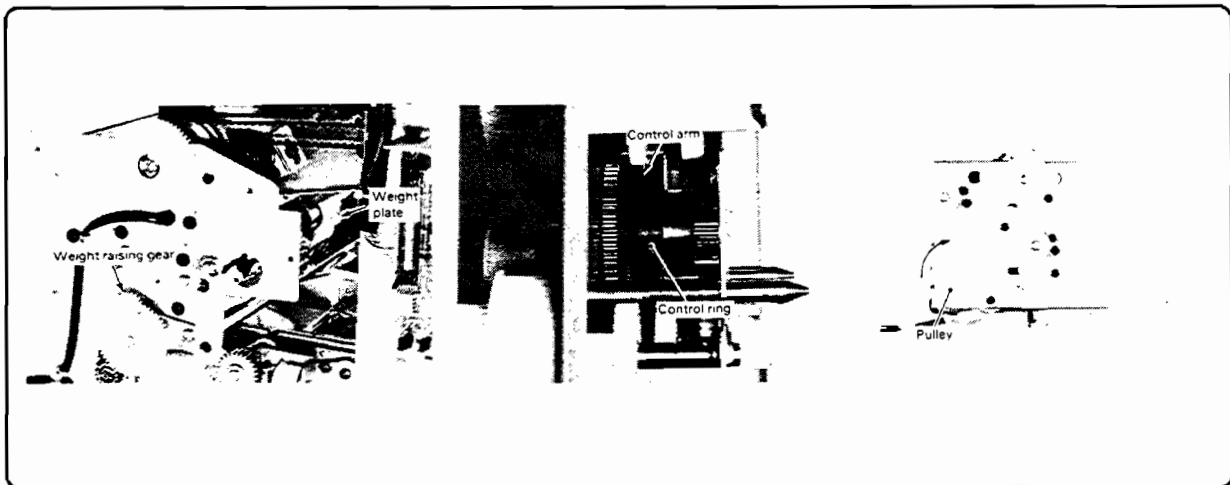

Figure 6-169. Weight Plate Alignment
2. Turn the weight-raising gear slowly until the weight plate rises to its top height of travel (Figure 6-169).
3. Turn the pulley shown in Figure 6-169 clockwise until the projection of the control ring of the weight-control clutch comes against the control arm.
5. To check the timing of the drive pulley and weight after assembly, turn the pulley clockwise and the weight should raise; turn counter-clockwise and the weight should lower (Figure 6-169).